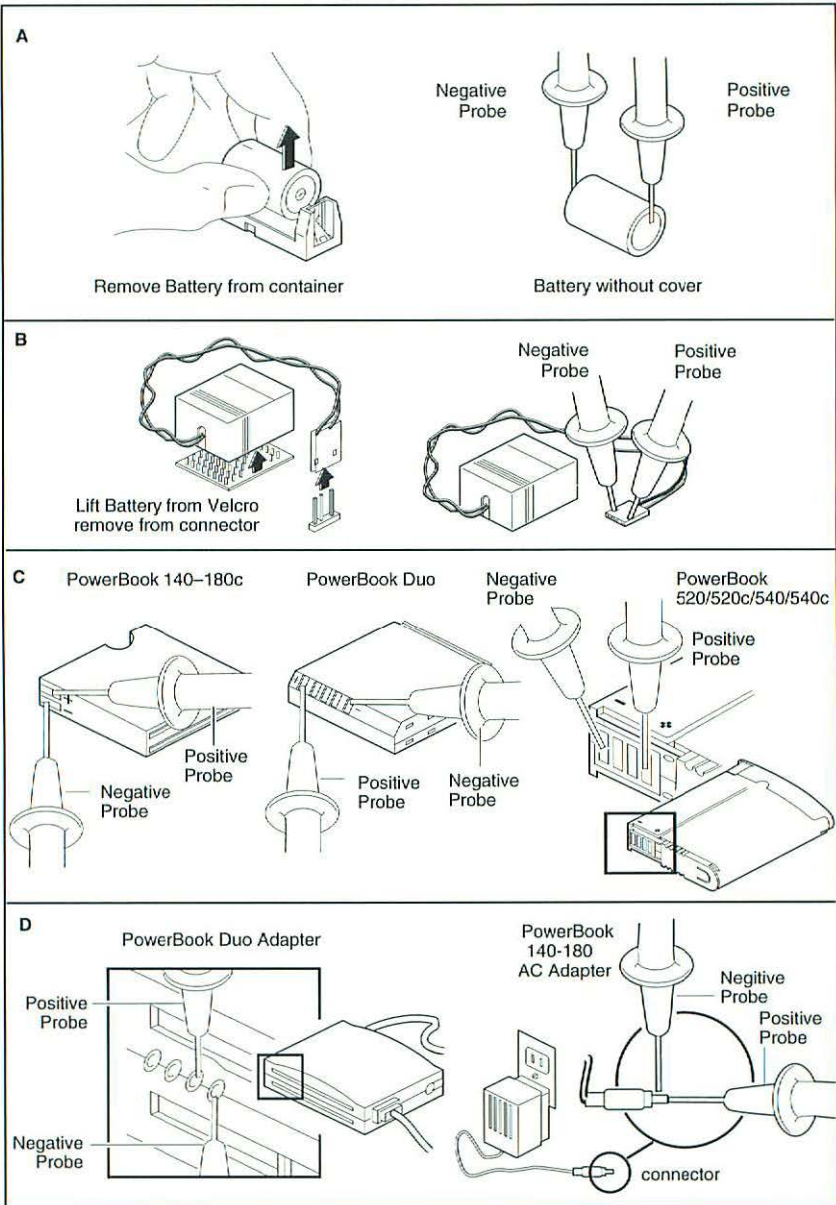

Figure 3 Battery and AC Adapter Verification
1. Remove the battery (Figure 3-A). The Macintosh LC 575 and the Performa 575, 577, and 578 have a hook-and-loop attached battery. (See Figure 3-B for these systems.)
3. Hold the positive probe of the voltmeter to the positive terminal and the negative probe to the negative terminal of the battery (Figure 3-C).
3. Hold the positive probe of the voltmeter to the inside of the AC adapter plug and the negative probe to the outside of the plug (Figure 3-D).
4. Touch the negative voltmeter probe to the contact nearest the power plug and the positive probe to the contact second nearest the power plug (Figure 3-D).